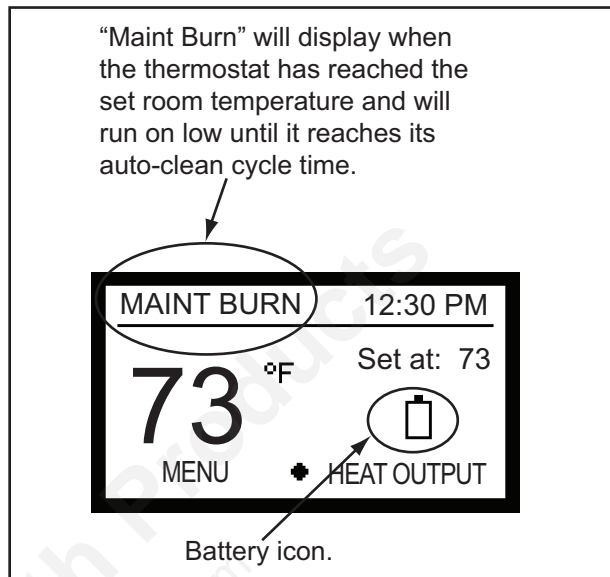

Figure 26.2
- A battery icon appears on your wall control to let you know you are now operating on battery power. **Figure 26.2.**
The wall control will display the battery icon when operating in the battery back-up mode. **Figure 26.2**